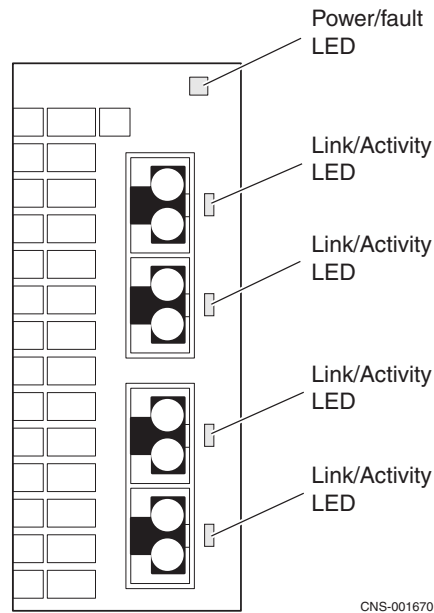

Figure 38 Four-port 16-Gb/s FC I/O module LEDs
The four-port 16-Gb/s Fibre Channel (FC) I/O module has two different types of status LEDs. Figure 38 shows the LEDs and Table 21 describes them.